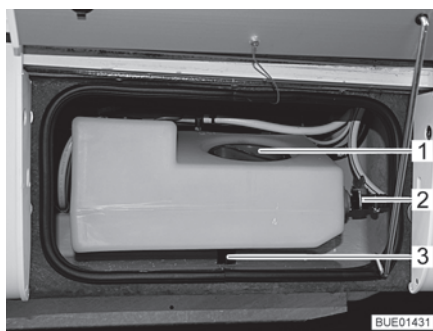
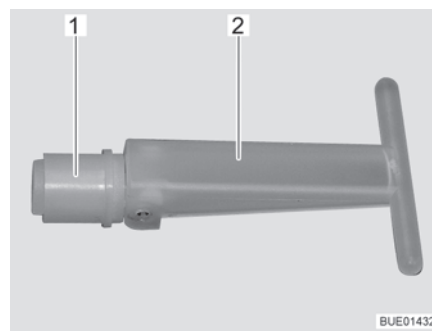

Fig. 163 Auxiliary water tank
Fig. 164 Stopper
When the emptying valve (Fig. 163,2) is open, the fill quantity of the auxiliary water tank is limited to approximately 30 litres; excess water will drain off. When the emptying valve is shut, the entire tank volume is available.
When the stopper (Fig. 164,1) is pulled in the inside of the auxiliary water tank, the water drains away via the drain (Fig. 163,3). The stopper can be accessed via the service opening (Fig. 163,1).
- Ensure that the stopper (Fig. 164,1) in the auxiliary water tank is shut (handle (Fig. 164,2) is folded out).
- Ensure that the emptying valve (Fig. 163,2) is shut.
- Open the service opening (Fig. 163,1) in the auxiliary water tank.
- Access the handle (Fig. 164,2) of the stopper (Fig. 164,1) via the service opening, turn the handle to the vertical position and remove the stopper.